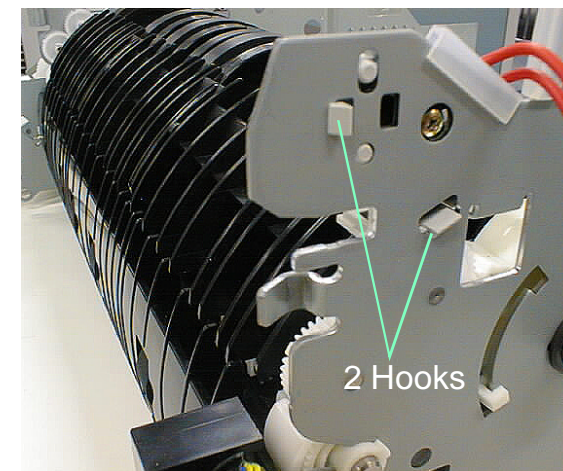

Figure 4-70. Interlock Assembly Removal
4. Release 2 hooks on the "Cover, Interlock" from "Frame, Middle, Left", and remove "Inter lock Assembly". (Refer to Figure4-70)